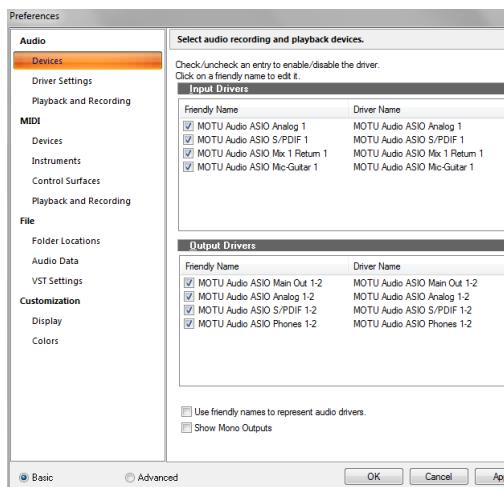

Figure 8-3: Activating the MOTU Audio WDM driver in SONAR by highlighting Audio Express inputs and outputs.
- 3** Check the Audio Express inputs and outputs that you wish to use and uncheck the ones you don't as shown in Figure 8-3.